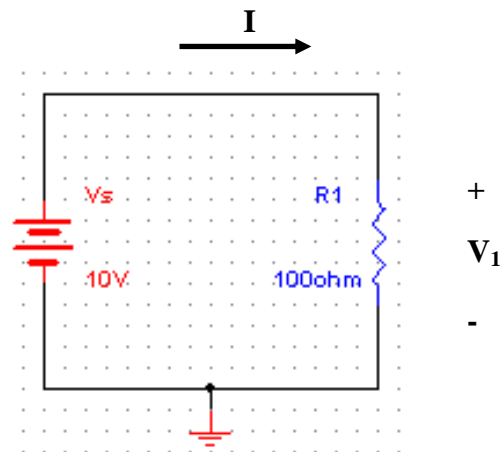

Figure 3: Verifying Ohm's Law
2. Build the circuit given in Fig. 3. Set  $V_s = 10V$  and  $R_1=100\Omega$ . Click **Simulation Switch** to run the analysis. Record voltage ' $V_1$ ' across resistor  $R_1$  by connecting a Multimeter in parallel to it. Record the value of current ' $I$ ' flowing through  $R_1$  by connecting another Multimeter in series to  $R_1$ . Note down the values in Table 3. From the voltage current readings verify Ohm's law  $V_1=R_1 I$ . Considering the Multimeter reading as a reference, calculate the % error.